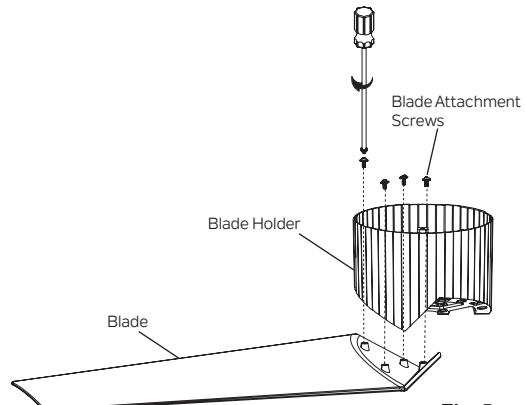

Fig. 5
**Step 1.** Align the four holes in a blade with four matching holes in the blade holder. Thread blade attachment screws into the aligned holes, and tighten screws to secure the blade to the blade holder. Repeat for remaining blades. (Fig. 5)